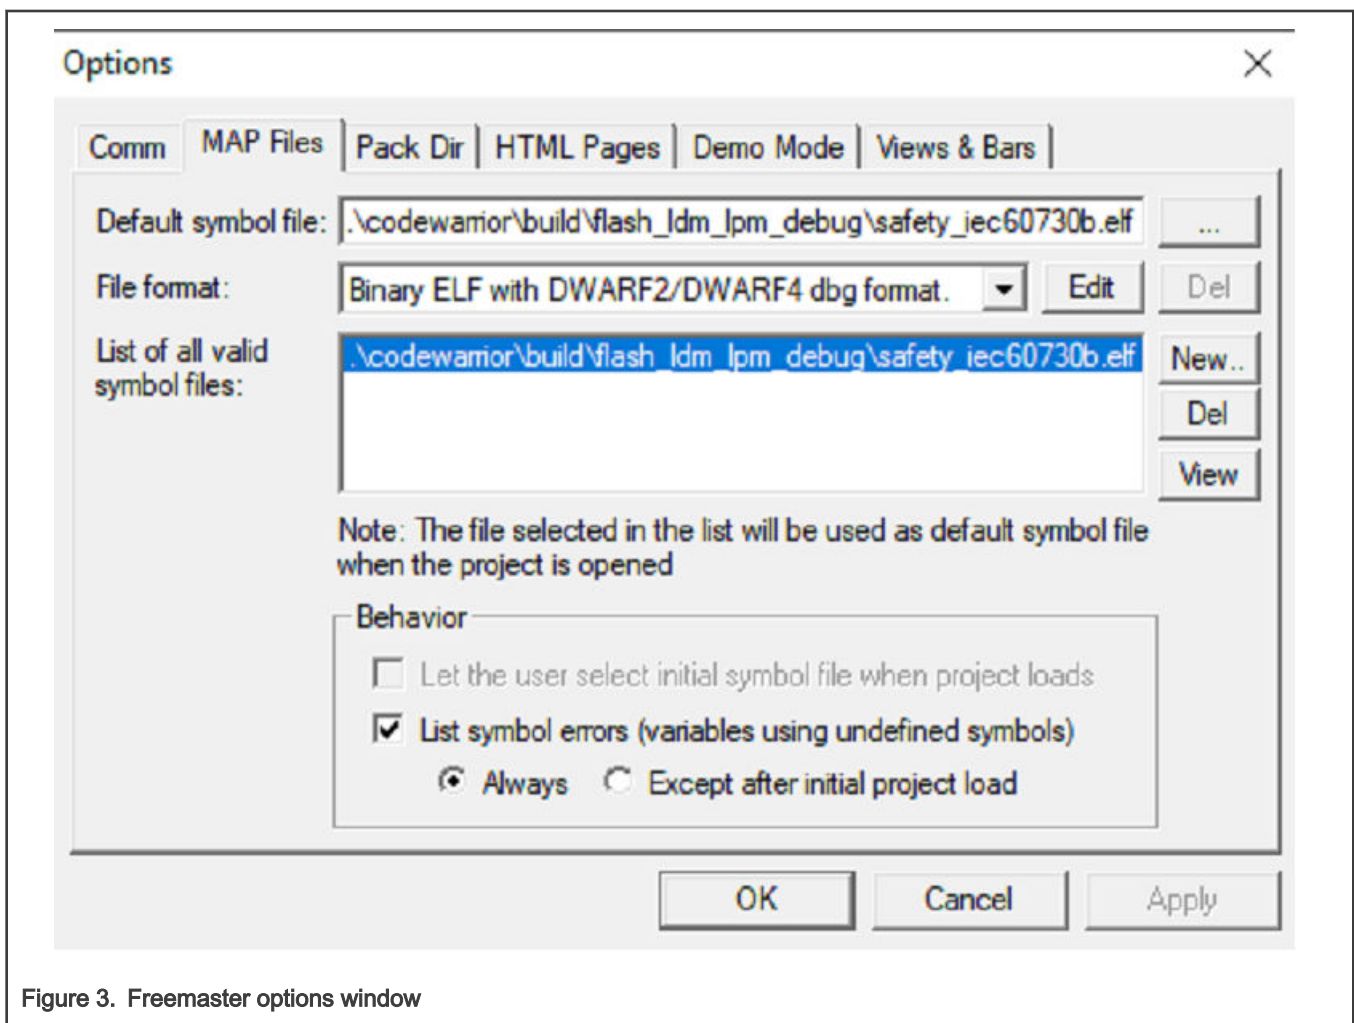

Figure 3. Freemaster options window
- Check if the correct ELF file is selected in "Project->Options->MAP Files". See Figure 3.